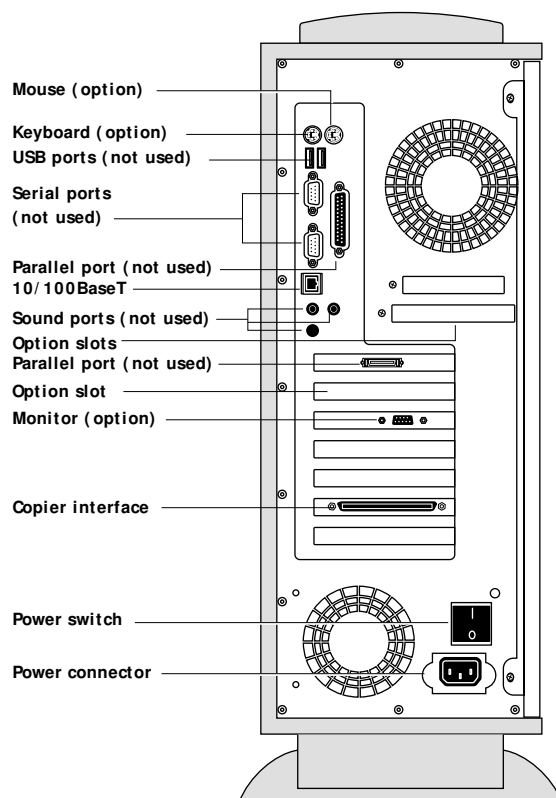

FIGURE 5-3 Back panel of E-800A
- All interface cables to the system are plugged into the proper connectors on the back panel of the E-800A (see Figure 5-3).